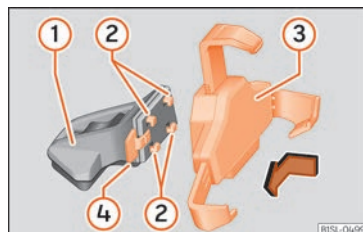
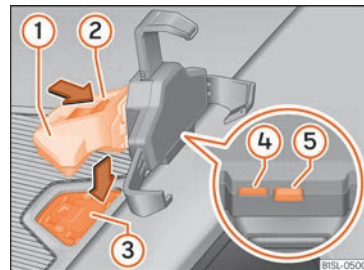

Fig. 107 Assembling the universal support and the holding arm.
Fig. 108 On the centre console: close the compartment where the infotainment system is housed.
- Press the unlock button  **Fig. 108 ⑤** until the upper arm of the universal support is released.
- Place the smartphone on the bottom mountings. To adjust the lower fittings, press the button  **Fig. 108 ④**
- Hold the universal support » » Fig. 107 ③ and press the unlock button » » Fig. 107 ④.
- Hold the support arm » » Fig. 108 ① and press the unlock button » » Fig. 108 ④ in the direction of the arrow.
- Insert the universal support » » Fig. 107 ③ in the fasteners ② of the support arm ①.
- Move the universal holder to the side in the locking direction ④ until it engages audibly » » ⚠.
- Place the support arm » » Fig. 108 ① on the retaining plate » » Fig. 108 ③ from above and press it down until you hear that it has engaged » » ⚠.